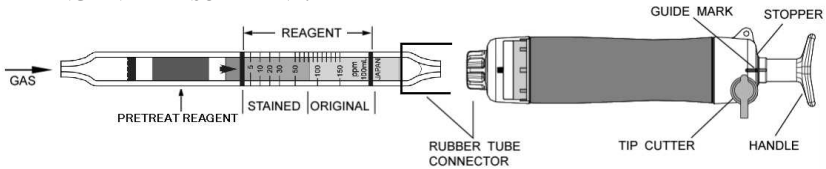

Fig.1
- ① Break both ends of the detector tube.
- ② Insert the detector tube into the aspirating pump securely as shown in Fig.1. (Arrow mark shall point to the pump.)
- ③ Align the guide marks on the shaft and stopper of the aspirating pump.
- ④ Pull the pump handle at a full stroke until it locks and wait for 2 minutes or until the completion of sampling is confirmed with the flow indicator of the pump (See descriptions about the flow indicator in the instruction manual of the pump).
- ⑤ On completion of sampling, read the scale at the maximum point of the stained layer.
- ⑥ When the concentrations are below the scale range, 2 pump strokes can be used to determine concentrations of 2.1 to 21 ppm. Turn the pump handle right or left by 1/4 (90°), push it toward the pump without removing the detector tube from the pump, and repeat the step ③~④ once more. On completion of sampling, read the scale at the maximum point of the stained layer. Then multiply the reading value by 0.42.
- ⑦ When the concentration is over the scale range, a 1/2 pump stroke can be used to determine concentrations of 10 to 300 ppm. Remove the detector tube from the pump. Turn the pump handle right or left by 1/4 (90°), push